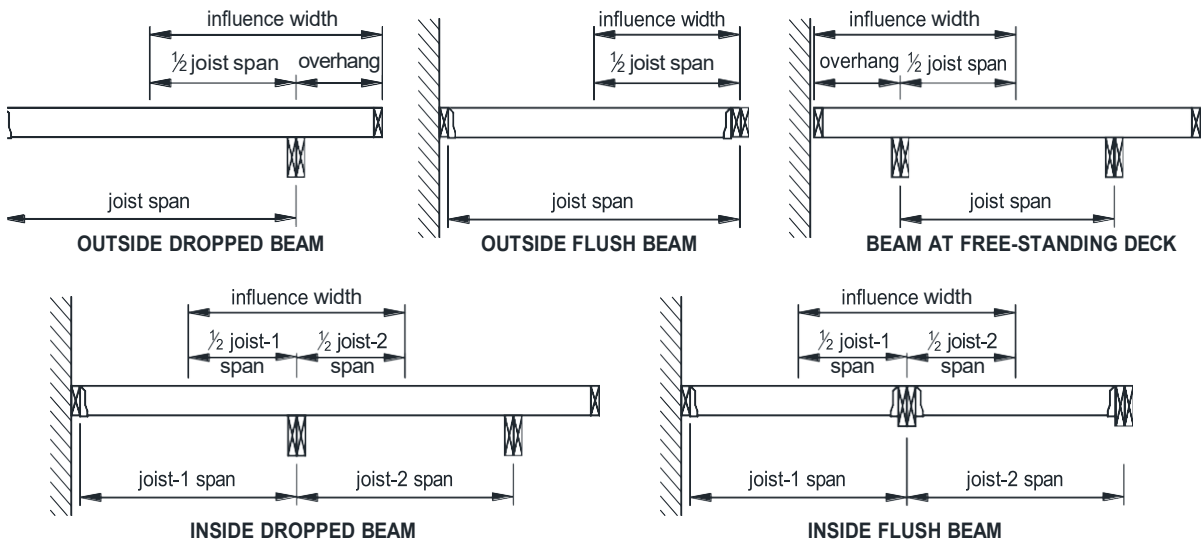

FIGURE 14: BEAM INFLUENCE WIDTH
- FIGURE 14, is based on supported joists' span lengths and overhang dimensions.